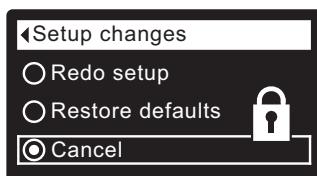

FIG. 38
8. Press the RIGHT (►) button. A flashing padlock icon will appear, as shown in Figure 38.
- 1-7. Go to the **Setup changes** screen (Figure 38) by following Steps 1-7 at left.